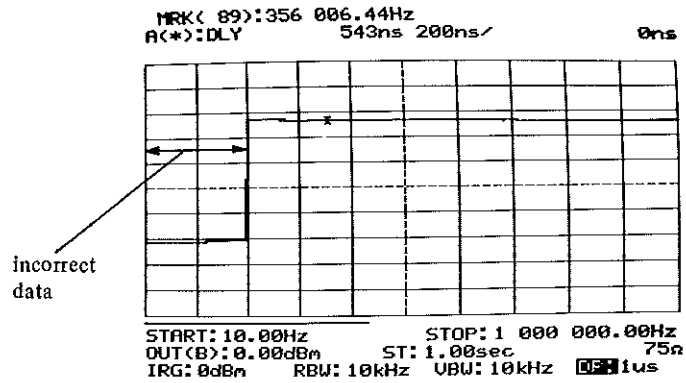

Fig. 3.23 Too low a frequency
- (b) The lowest frequency is too low for the DR. (Fig. 3.23)